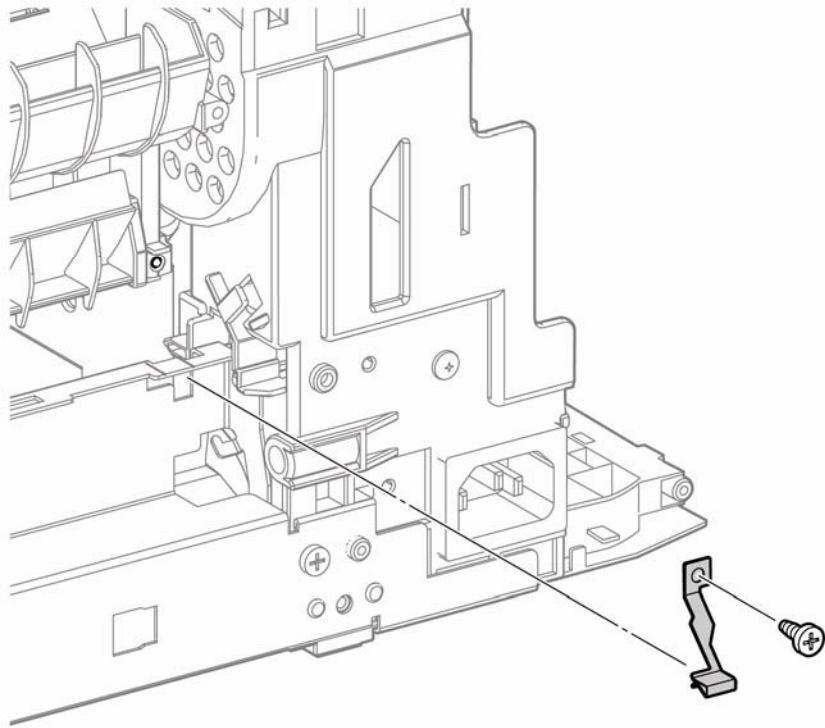

Figure 4 Remove the Ground Strap
19. Refer to Figure 4 to locate and remove 1 screw (silver, tapping, 8mm) that secures the ground strap.